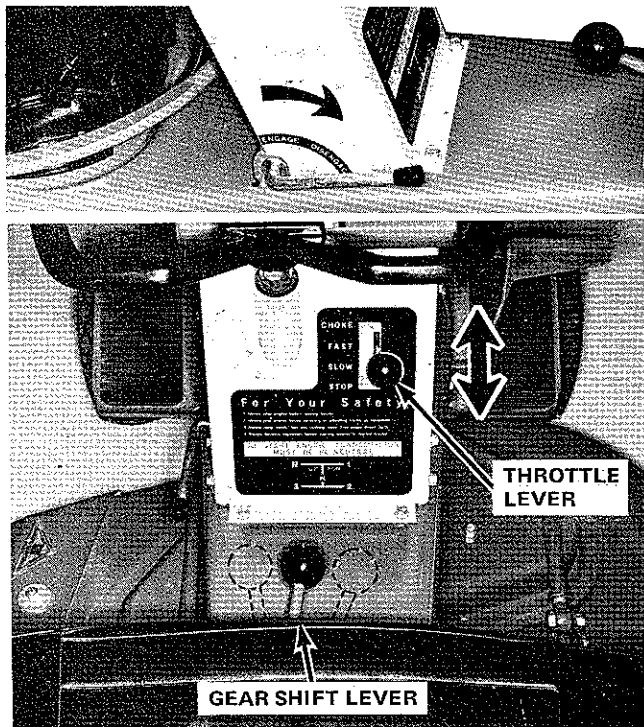

FIGURE 9
1. Insure that the power take-off is disengaged by moving the lever to the rear and down. (Figure 9).